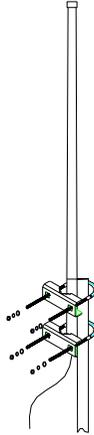

Figure 3 VHF antenna installation diagram
- ④ The distance between GPS antenna, VHF antenna and other antennas should be 3M above.
① Each VHF antenna can only connect one AIS device, can not be shared VHF antenna with other devices.
② VHF antenna should be fixed to railing of platform above bridge, should ensure VHF antenna as high as possible(no over mast height) and ensure no block by other buildings or metal things to avoid affecting normal reception of VHF signal
③ VHF antenna should be placed vertically with horizon.
④ The distance between VHF antenna and other antennas should be 2M above.
⑤ When install the VHF antenna, first connect VHF antenna with feed cable, then set waterproof sleeve in bottom connection of VHF antenna, finally wrap connection seamless with waterproof adhesive tape.
⑥ Put insulation plastic sleeve on a fixed pole(Don't scratch the insulation plastic sleeve), due to the fishing vessels is possible to be electrified, so the insulation plastic sleeve play insulation role with ship body.
⑦ Using metal clamp to fix antenna vertically at a fixed rod, clamp fixed location should be on the metal parts at antenna bottom, prevent fixing on upper part of white glass fiber VHF antenna installation diagram shown in Figure 3.